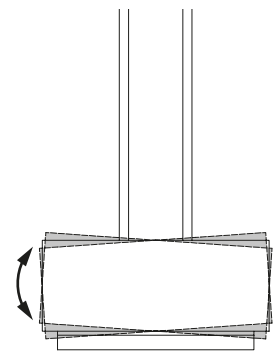

Fig. A11.03
- Formwork panel moveable – approx. 2 mm forwards, back and twistable. (Fig. A11.01 – Fig. A11.03)